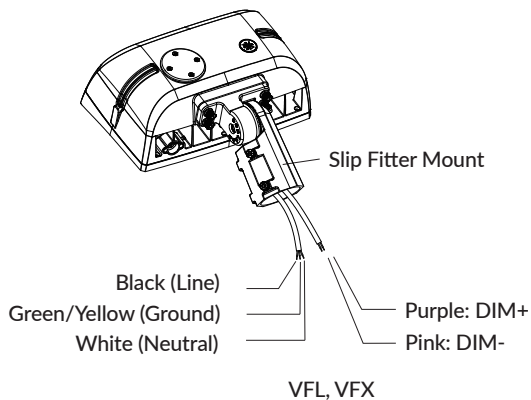

Figure 3-4
- Complete all wiring according to the "General Wiring Diagram." Neatly tuck all wires into the pole (Figure 3-4).